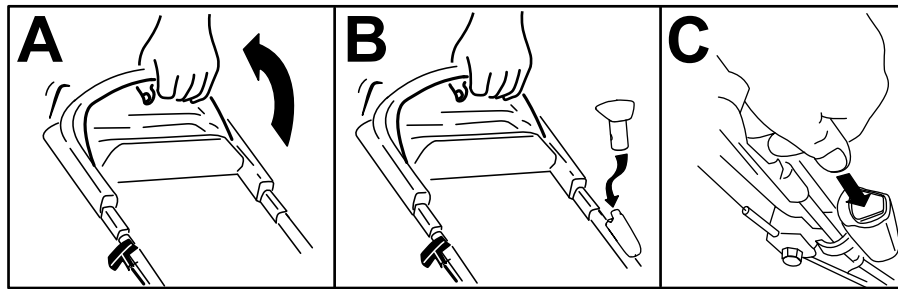

Figure 14
1. Hold the blade-control bar against the handle (A of Figure 14).
Note: If the electric-start button has been removed, insert it in the electric starter (B of Figure 14).
2. Push the electric-start button until the engine starts (C of Figure 14).